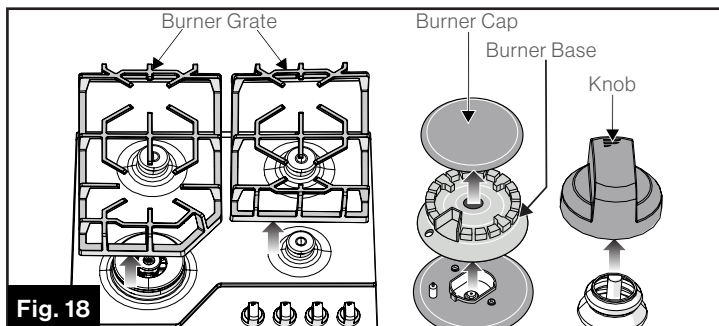

Fig. 18
1. Remove the burner grates, burner caps and knobs. (Fig. 18)